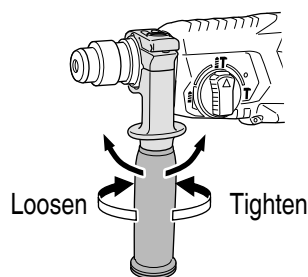

Fig. 6
2. Attaching the side handle (**Fig. 6**)